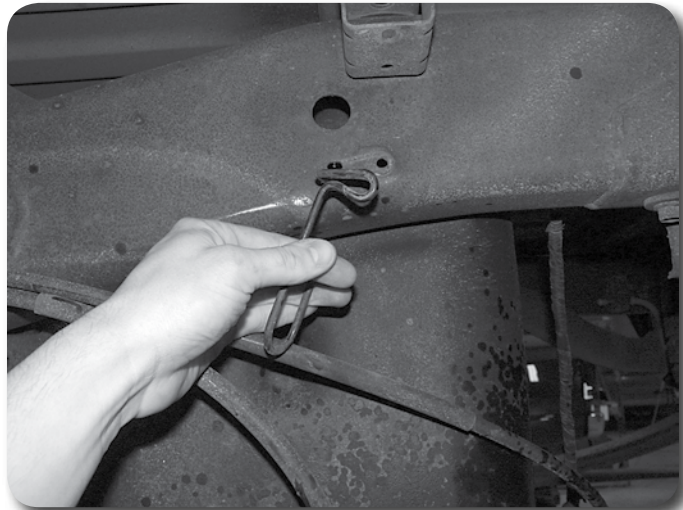

Figure 23
73. Remove the parking brake cable retaining the ring from the driver's side frame rail **Figure 23**. Remove the driver's side parking brake cable from the ring and reinstall the ring on the frame with the passenger's side cable still in it.